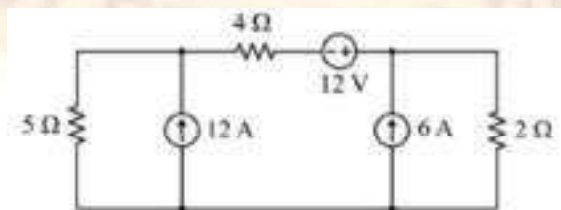

Figure 5
14. For the circuit given in Figure 5, apply the superposition theorem to find the power dissipated in the 5 Ω. (14 marks)